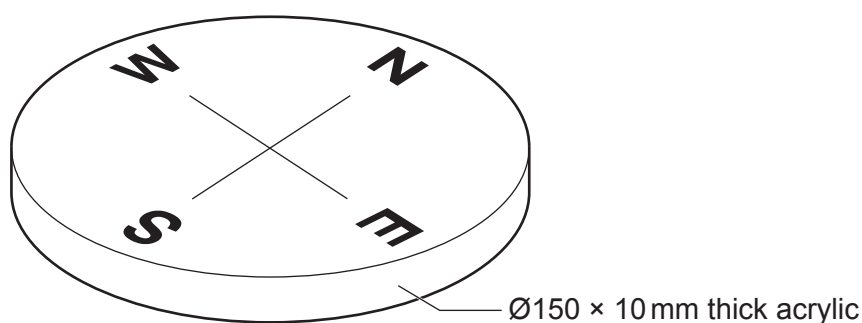

Fig. 13.9
- (g) Fig. 13.9 shows the base of the wind gauge with the compass points **N** (North), **S** (South), **E** (East) and **W** (West) indicated.